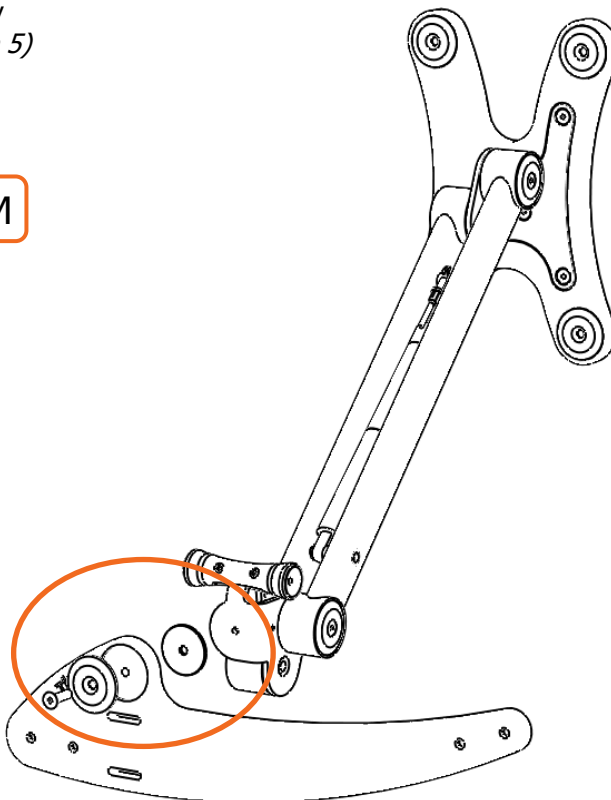

Figure 5
Step 5: With the hex key attach the Cradle. (*figure 5*)